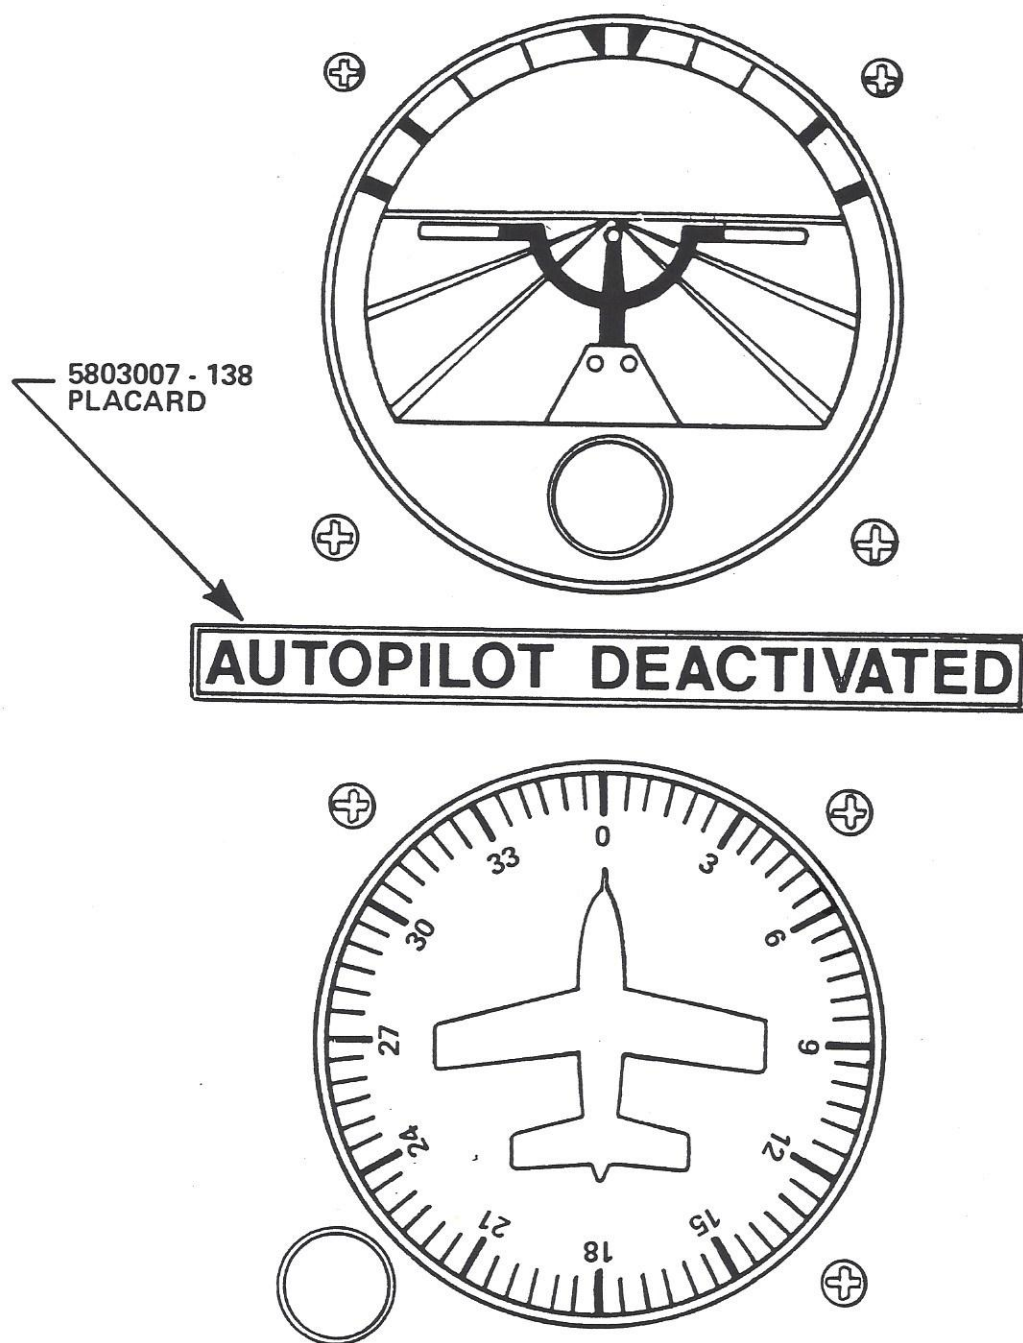

FIGURE 3
- B-14 Install "autopilot deactivated" placard as shown in Figure 3.